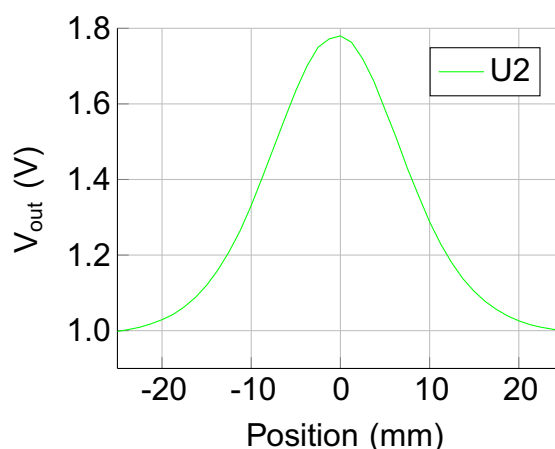

Figure 11. Caliper Characterization Results
6. The resulting characteristic of the sensor are shown in Figure 11.